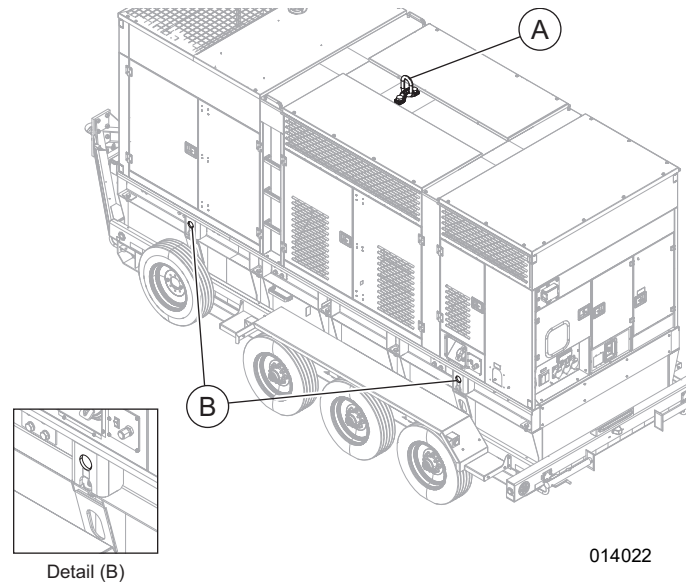

Figure 3-19. Trailer-Mounted Unit
4. See **Figure 3-19**. For a single lift point, attach hook to lift eye (A). For multi-lift point, use spreader bars and lift chains that are appropriately rated for this machine. Attach chain to 4 point lift eyes (B). See unit dimensions.
See Figure 3-19 (item B) for the correct lifting points